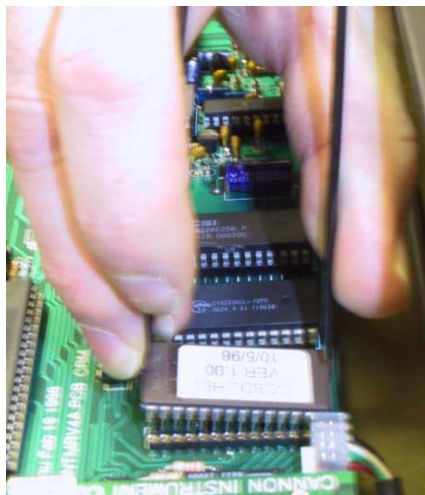

Figure 2: Removing EPROM (CCS-4/5 only)
3. Install the new EPROM by aligning ALL terminal leads with their respective sockets and gently push the EPROM into place. Make certain to correctly align Pin 1. Refer to Figure 2.
Note: Make certain that the EPROM is installed with the notch properly aligned with the line on the circuit board. Refer to Figure 2.